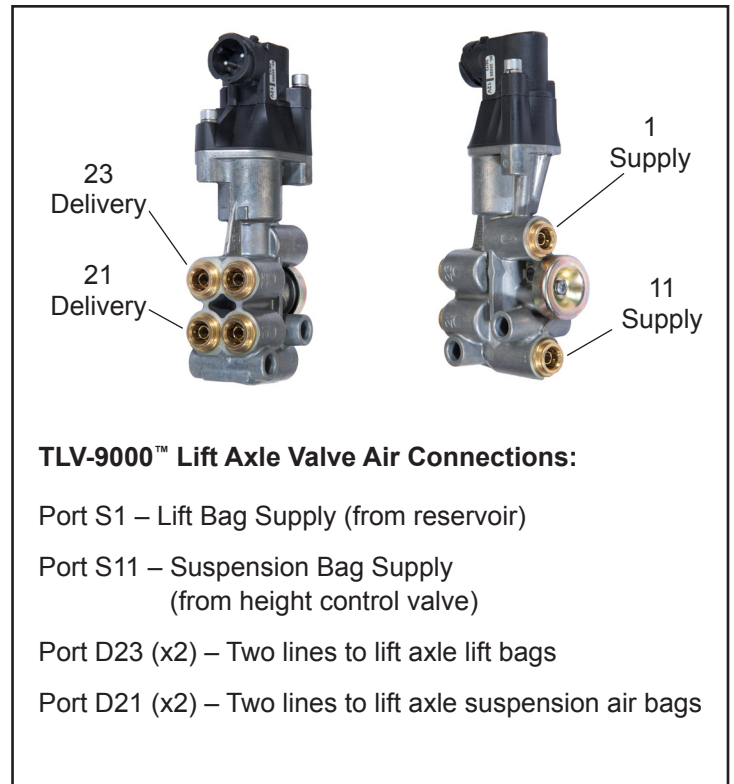

Figure 2 – Air Connections
The TLV-9000™ lift axle valve (1) replaces the existing manual lift valve, and should be installed in the same location in a vertical orientation with the solenoid on top. Plumb according to the air connections shown in Figure 2.